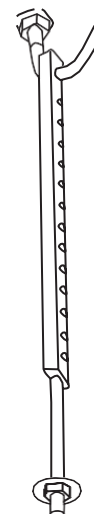

Fig. 4.4
4. Install the four suspension bolts (see Fig.4.4).